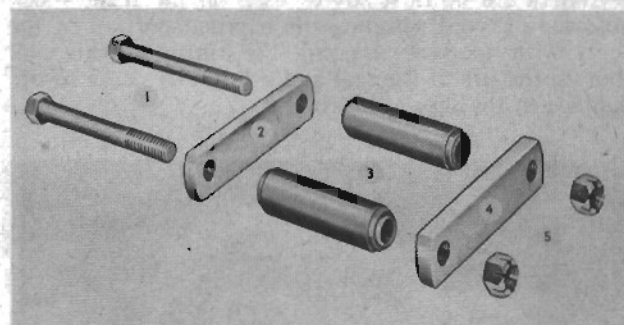

FIG. 8
Support the car with a stationary jack and place a hydraulic jack under the rear axle assembly to support the weight of the axle assembly. Remove the nuts (5, Fig. 8) and outer plate (4). Then remove the bolts and inner plate (2).